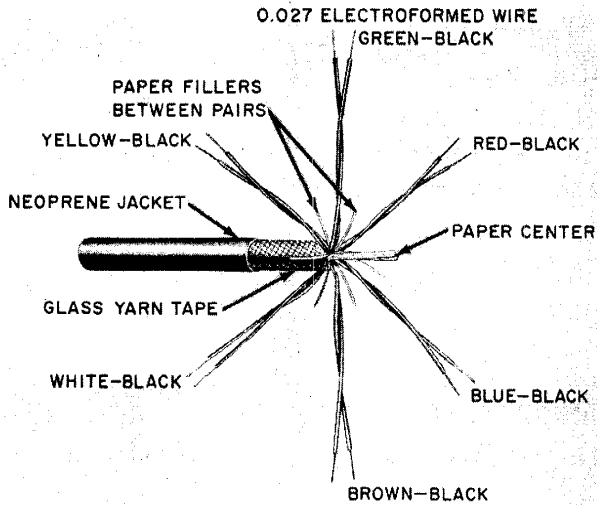

Fig. 2—C Multiple Drop Wire (Early Design)
**2.05** Makeup of this wire is shown in Fig. 2.